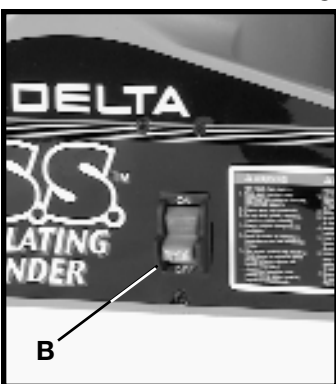

Fig. 18
The on/off switch (A) Fig. 18, is located on the sander base. To turn the sander "ON", move the switch to the up position. For "OFF", move the switch down.